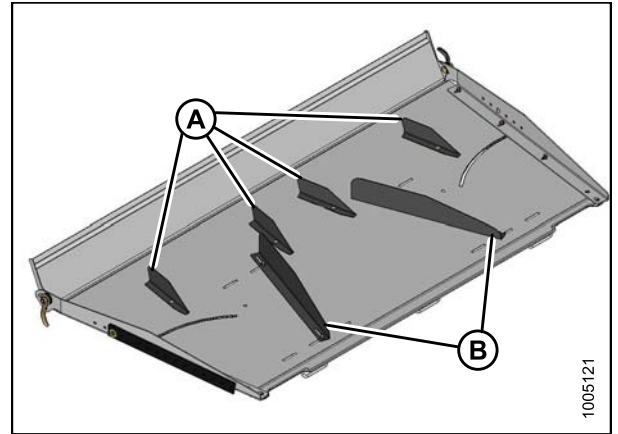

Figure 3.54: Deflector Fins
3. Assemble fins (A) to bottom of shield as shown in Figure 3.54: *Deflector Fins*, page 53 using hardware provided. The two long fins (B) are handed (outboard and inboard sides) and should be installed with bolts on outboard side of the fin. Bolts should be installed with nuts against the fins.